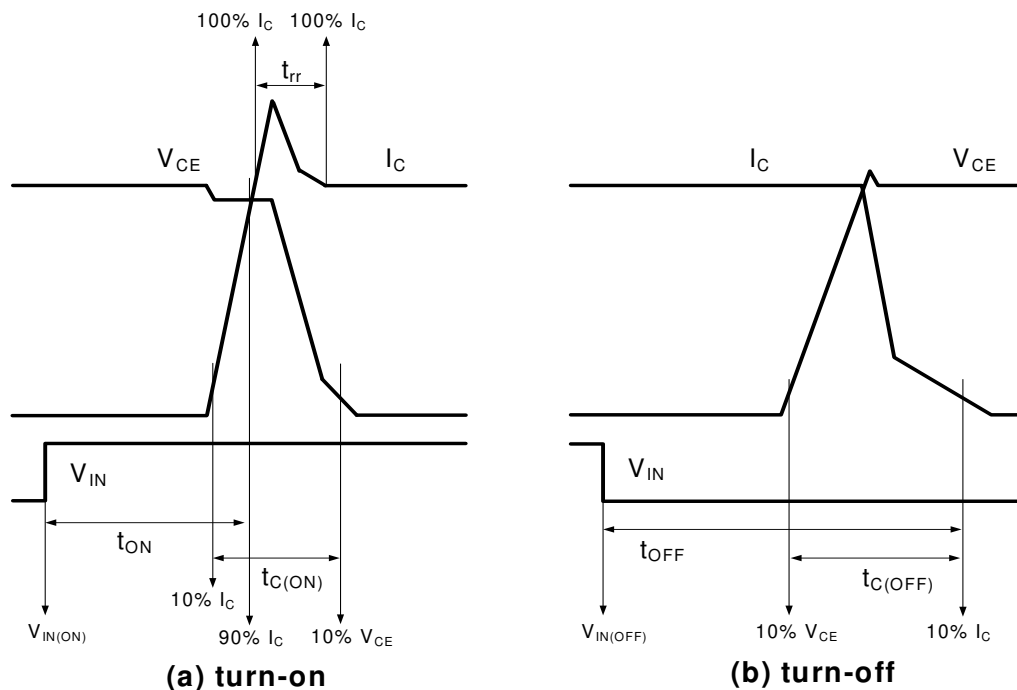

Figure 4. Switching Time Definition
8.  $t_{ON}$  and  $t_{OFF}$  include the propagation delay of the internal drive IC.  $t_{C(ON)}$  and  $t_{C(OFF)}$  are the switching time of IGBT itself under the given gate driving condition internally. For the detailed information, please see Figure 4.